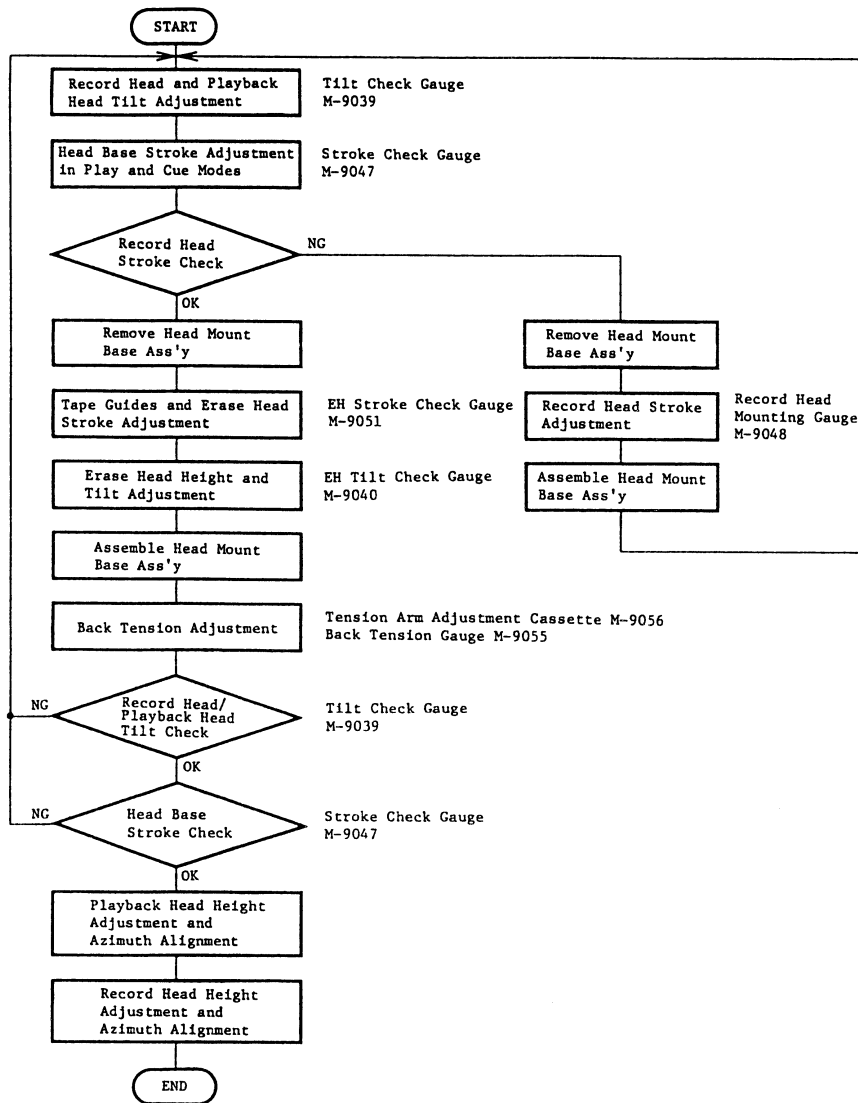

Fig. 4.9
Note: On items 4.4 – 4.10, refer to Fig. 4.9 flow chart.